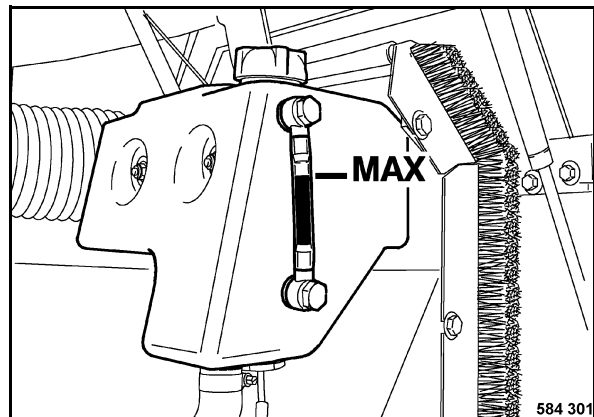

Fig. 125
- Check the coolant level (Fig. 125).